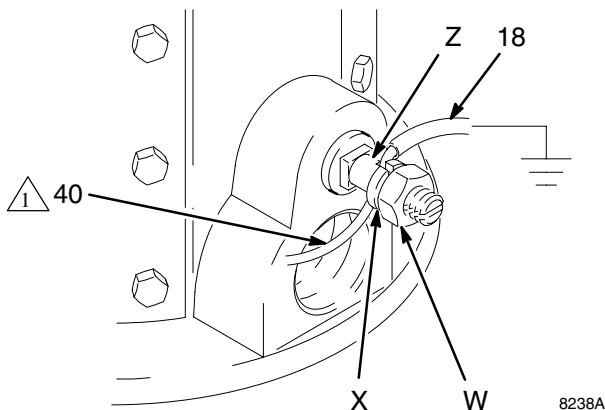

Fig. 1
1. *Pump*: use the ground wire and clamp (supplied). See Fig. 1. Loosen the grounding lug locknut (W) and washer (X). Insert one end of the ground wire (18) into the slot in lug (Z) and tighten the locknut securely. Connect the other end of the wire to a true earth ground.
2. *Agitator (Models 232437 and 232449 only)*: one end of the agitator ground wire (40, supplied) is fastened to the agitator motor with a screw. Insert the other end of the ground wire into the slot in lug (Z). Insert the pump ground wire (18) as described in step 1 and tighten the locknut (W) securely.